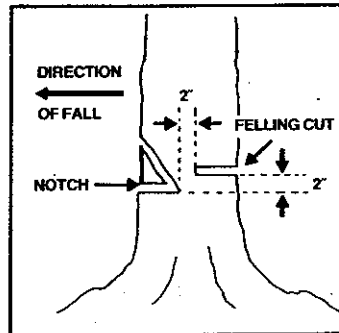

Figure 21
- a. Make the notch cut. Figure 21